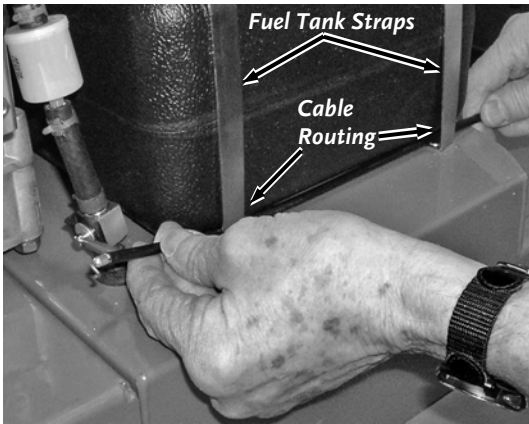

Figure 7
1. Route the Throttle Cable from the Tow Bar behind the Fuel Tank straps on the right side of the Fuel Tank (**Figure 7**).
1. Route the Throttle Control Cable from the Tow Bar behind the Fuel Tank straps on the left side of the Fuel Tank (similar to **Figure 7** except on the left side of the machine).